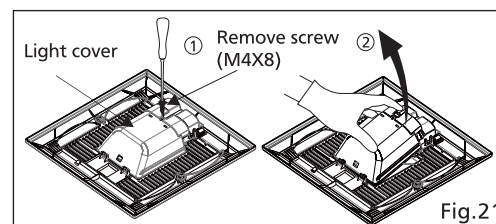

Fig.21
2. Remove the screw as shown in step ① of Fig.21. Remove the light cover as shown in step ② of Fig.21.